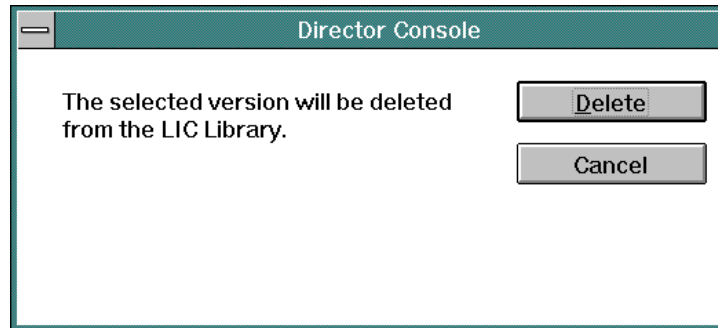

Figure 174. Confirm LIC Deletion Message Box
3. At the *LIC Versions* dialog box, select (highlight) the LIC version to delete and click the *Delete* button. The message box shown in Figure 174 appears.